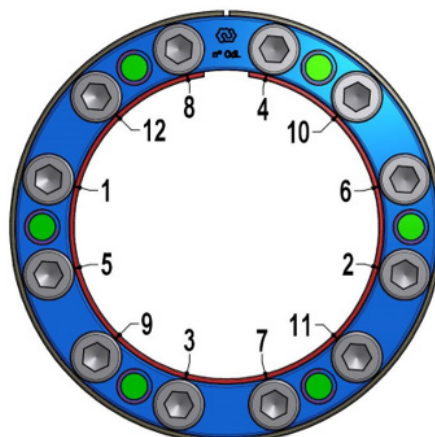
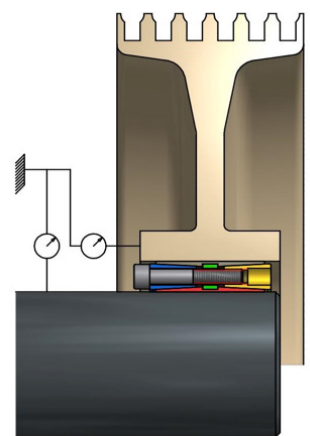

Fig. 3
Fig. 4
4. Tighten the screws by hand in a crosswise pattern (see fig. 3 as example) until fitting clearances with shaft and hub bore are bridged, while making sure that the hub is aligned as required. Alignment of hub respect to shaft may be checked using a dial indicator (see fig. 4). **Better centering of connected parts from the beginning of installation is essential for better centering when installation is completed.**
5. Use a torque wrench set approx. 5% higher than specified tightening torque (Ma). **Tighten the screws in a crosswise pattern (see fig. 3 as example), using approx. ¼ turns (even if initially some screws require a very low torque to achieve ¼ turns) for several passes** until ¼ turns can no longer be achieved. For better centering result, it is recommended to check the alignment of hub respect to shaft with a dial indicator after each tightening pass (see fig. 4).